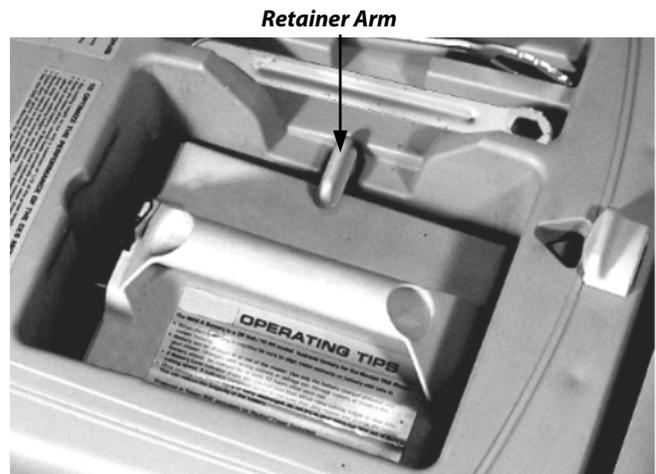

Figure 20
3. Turn the Battery Retainer Arm back over on top of the Battery to secure it in place (**Figure 20**).